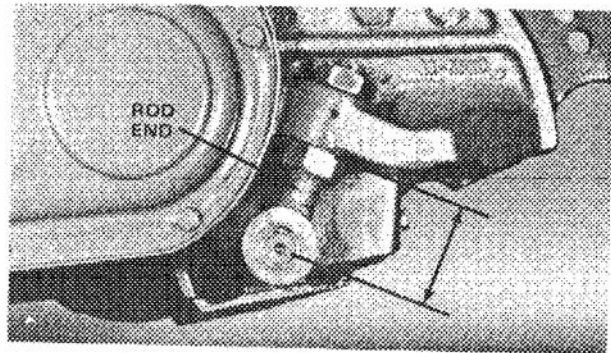

Figure 46
37. Install the bed bar between the gear cases and secure with jam nuts (Fig. 46). Do not tighten nuts.
38. As a guide, adjust rod end ends (Fig. 46) using dimensions shown in Fig. 47. Do not tighten jam nuts at this time.